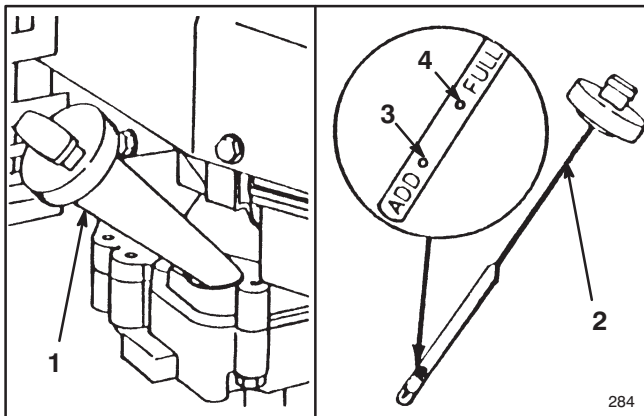

Figure 9
Fill crankcase with SAE 30 oil until oil level reaches FULL mark on dipstick as shown in Figure 9. The maximum crankcase capacity is 25 ounces (0.75 liters) of oil. Use any high quality detergent oil having the American Petroleum Institute (API) "service classification" — SE, SF or SG.
Before each use, ensure oil level is between ADD and FULL marks (Fig. 9). Add oil if level is low.
3. Wipe dipstick and insert it into filler neck. Rotate cap 1/4 turn. Then remove dipstick and check level of oil (Fig. 9). If level is low, add only enough oil to raise level to FULL mark on dipstick. **DO NOT FILL ABOVE**
1. **CHECK OIL LEVEL**—Maintain oil level between ADD and FULL range as shown on dipstick (Fig. 9).